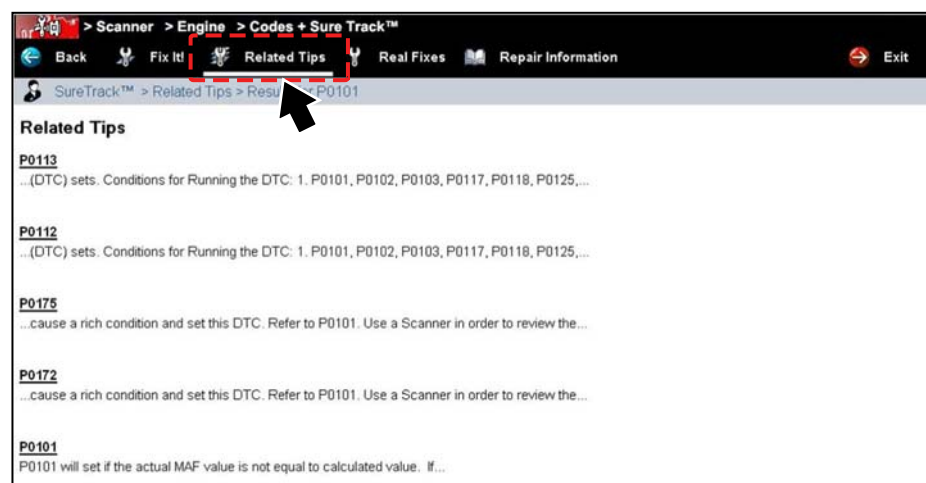

Figure 15-8 Related Tips Screen
**Related Tips**—opens a list of tips that may include information that is related to the current DTC (Figure 15-8).